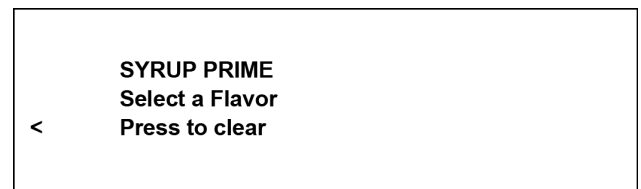

Figure-35
23. Press the Calibrate symbol  to enter the Syrup Prime mode. (See Figure-35.)